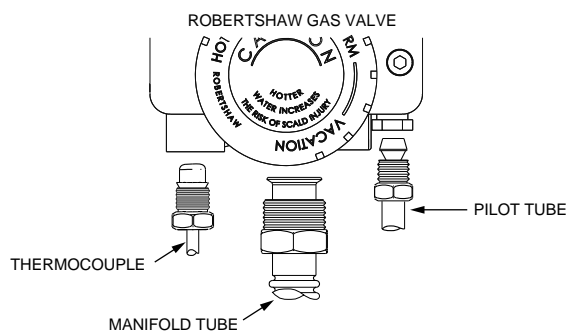

FIGURE 25.
5. Disconnect the thermocouple (right-hand thread), pilot tube, the igniter wire from the igniter button, and manifold tube at the thermostat. (Figure 25).
4. Disconnect the igniter wire from the igniter. **NOTE:** First remove the igniter from the bracket by depressing front and rear holding tabs and lift. Next remove igniter bracket from the gas valve. Disconnect the thermocouple (right-hand threads), pilot tube, and manifold tube at the gas control valve/thermostat (Figure 25).